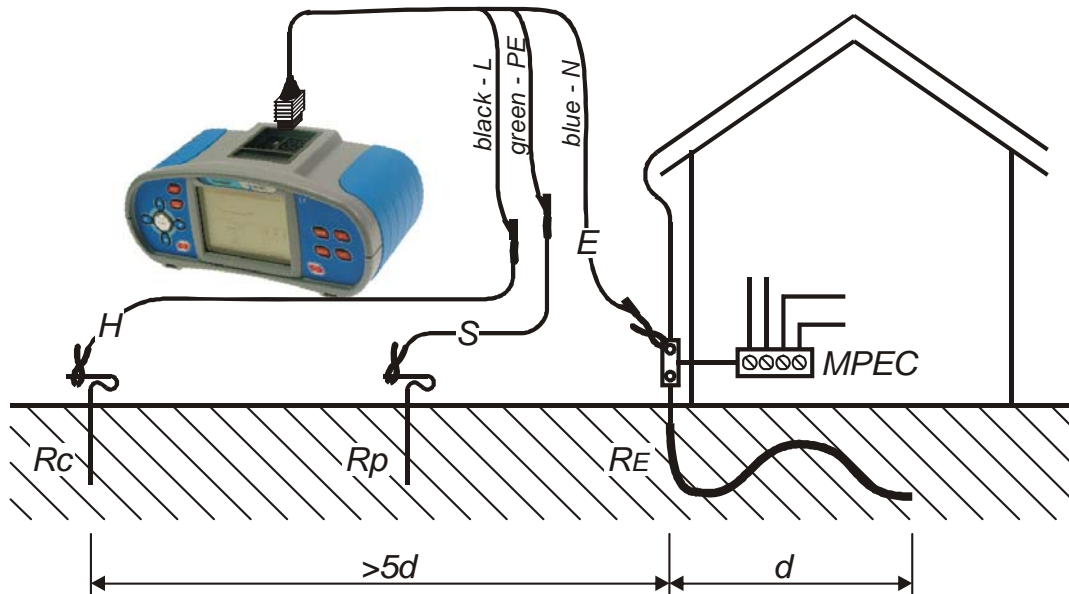

Figure 5.32: Resistance to earth measurement – PE grounding
- ❑ **Connect** test leads to the tested object (see figures 5.32 and 5.33).